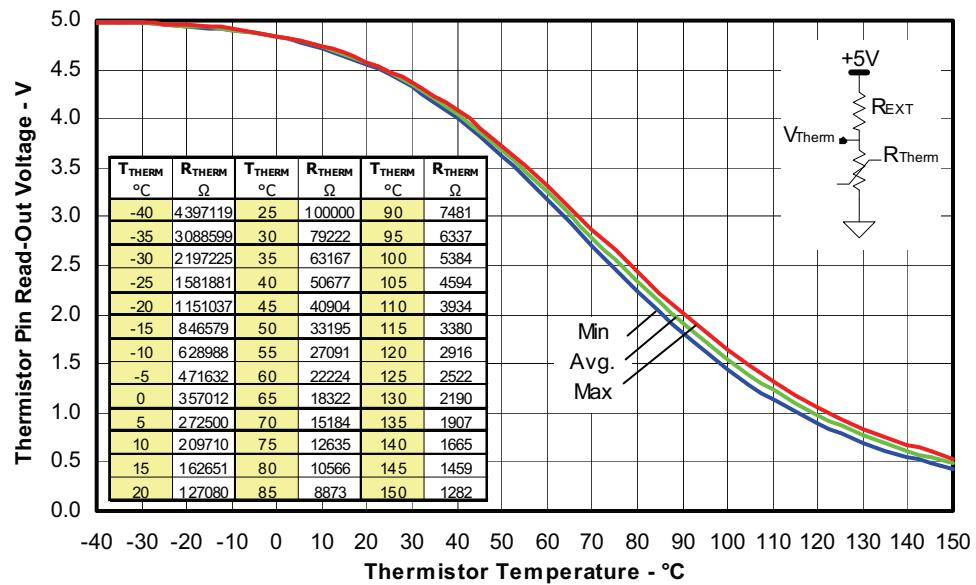

Figure 9. Thermistor Readout vs. Temperature (12Kohm pull-up resistor, 5V) and Normal Thermistor Resistance values vs. Temperature Table.
3. Value of the boot-strap capacitors depends upon the switching frequency. Their selection should be made based on IR design tip DN 98-2a, application note AN-1044 or Figure 9. Bootstrap capacitor value must be selected to limit the power dissipation of the internal resistor in series with the **V_{CC}**. (see maximum ratings Table on page 3).